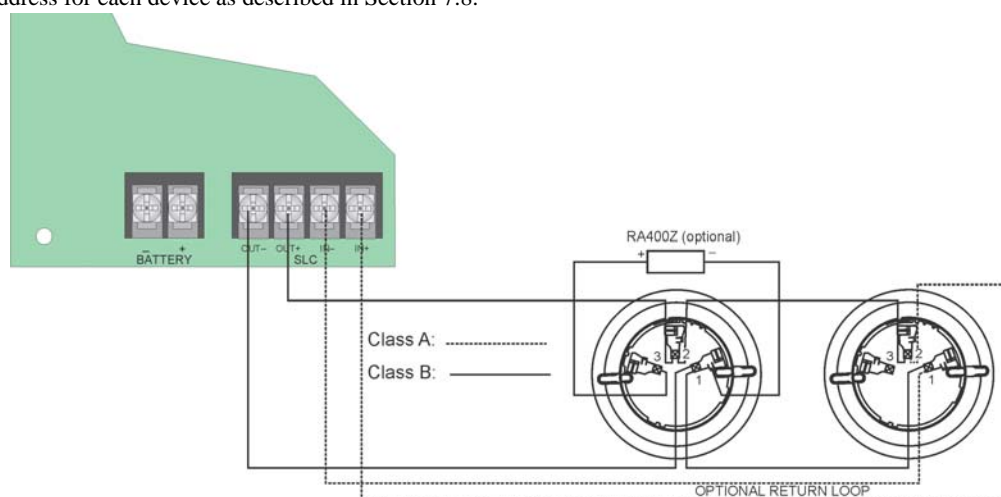

Figure 7.5 Heat and Smoke Detector Connection to the Panel.
1. Wire device bases as shown in Figure 7.5.